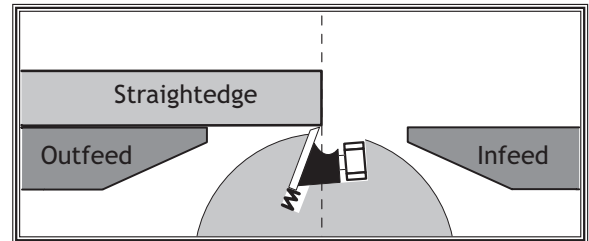

Figure 19. Illustration of a typical cutterhead alignment setup.
3. Rotate the cutterhead under the straightedge, as illustrated in Figure 19.